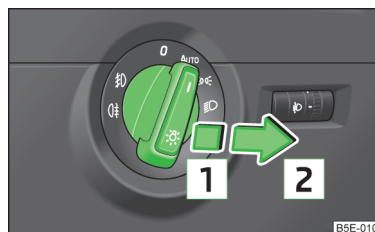

Fig. 32
➤ Turn the light switch to position **AUTO**, or » Fig. 32.
- Turn the light switch into position **AUTO** or  ➤  ➤  ➤ Fig. 32 on page 59.